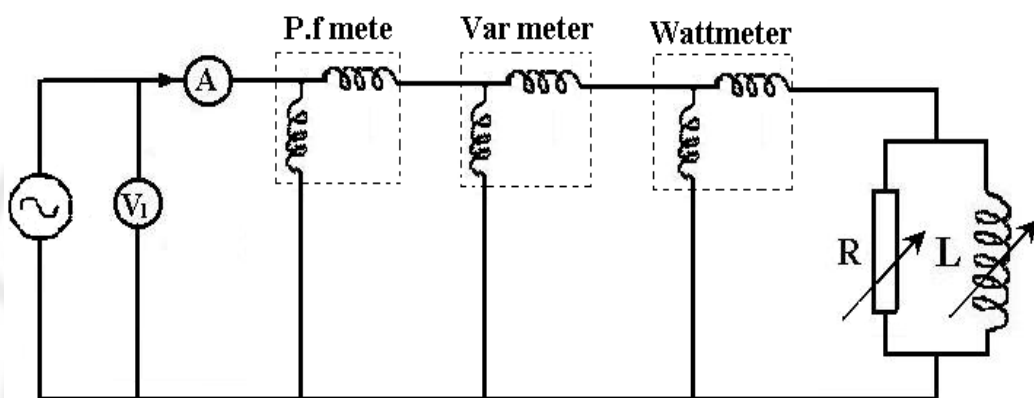

Fig. 6
- 1- Wire the circuit as shown in Fig. 6.